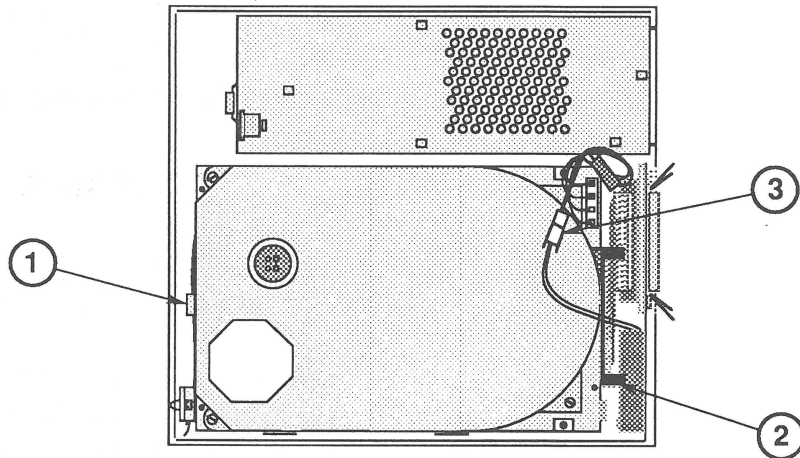

FIGURE 18
2. Push back the large holding tab (Figure 18, #1) and pull up the hard disk assembly (with metal frame). Set the hard disk assembly on the front edge of the case so that you have room to work.
3. Open the end tabs (if present) on the HDA-to-case cable connector (Figure 18, #2) and disconnect the cable from the hard disk.
4. Disconnect the fan cable by releasing the little holding clip on the connector (Figure 18, #3).